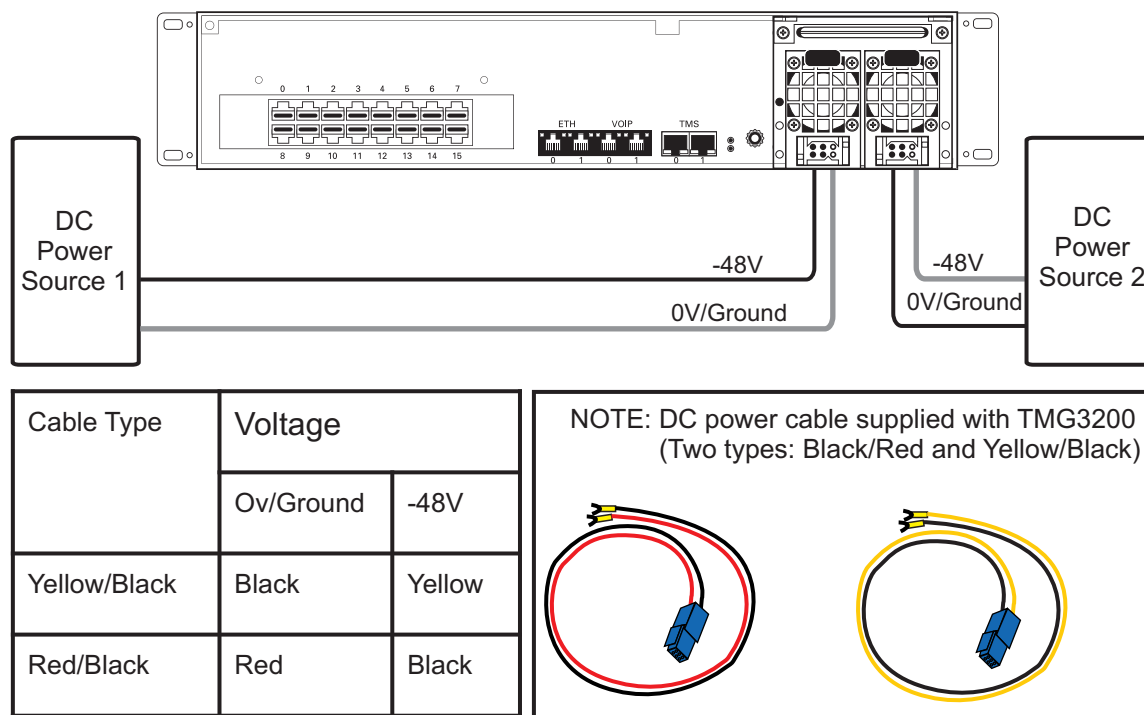

Figure 2.9 TMG3200 DC Wiring Diagram
1. Connect one DC cable, supplied with the TMG3200, as shown in figure 2.9 on page 26, to the DC outlet at the rear of the TMG3200.
**Note** Two types of cable with different coloring are available. Refer to figure 2.9 on page 26 for the appropriate wiring information.